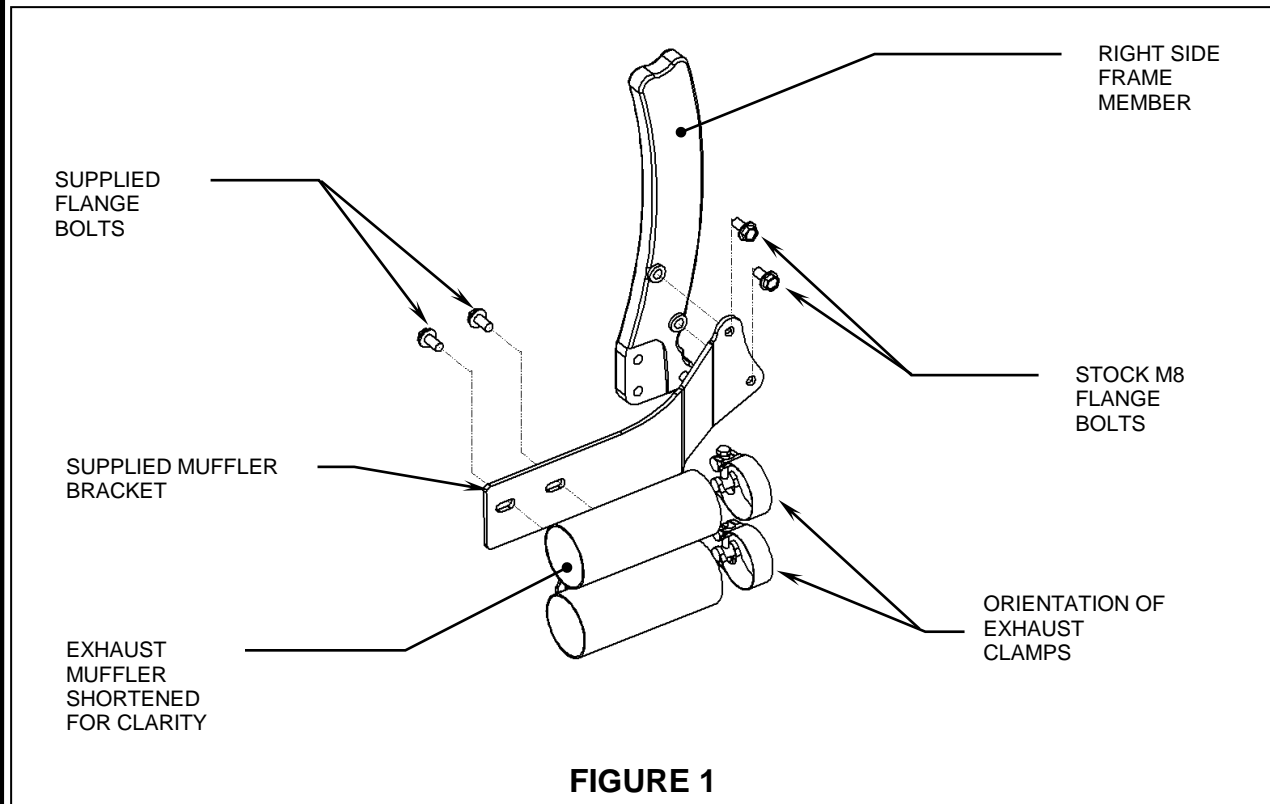

FIGURE 1
3. Remove the exhaust bracket from the box and mount it to the motorcycle frame using the stock bolts retained in Step 1, but **DO NOT TIGHTEN** at this time, see Figure 1.
5. Remove the muffler assembly from the box and slide two supplied 27 - 61MSC clamps onto the muffler tubes. The clamps should be orientated as shown in Figure 1. Slide the muffler onto the head pipes by tapping it onto the head pipes with your hand as you push the mufflers forward making sure the muffler slides as far forward as possible. Secure the muffler to the exhaust-mounting bracket using the supplied 5/16-18 bolts but **DO NOT TIGHTEN.**